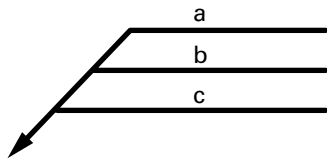

Figure 1
- In the welding symbol shown in *Review Question Figure 1*, the operation to be conducted first is \_\_\_\_\_.